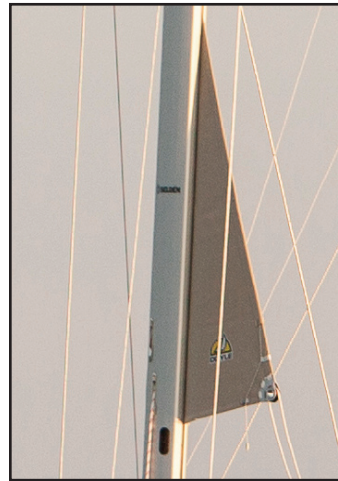

Figure 12.10
3. Take up the main furling line while keeping slight tension on the outhaul; continue to furl until only the UV protected portion of the sail is visible (Fig. 12.10).